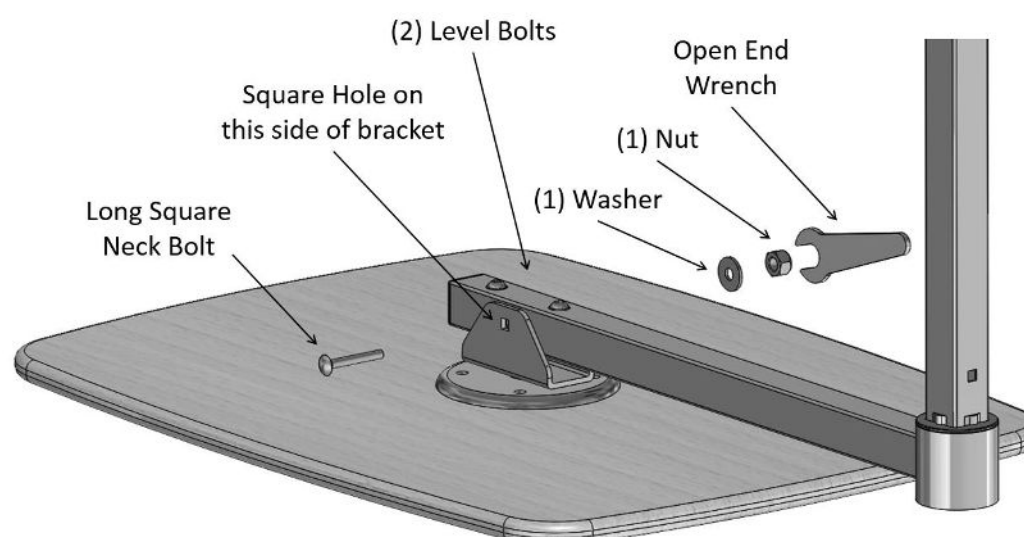

FIGURE 5
5. Using the Open End Wrench, attach the Tray Assembly to the Tray Support Assembly with the Long Square Neck Bolt, 1 Washer, and 1 Nut as shown in FIGURE 5.